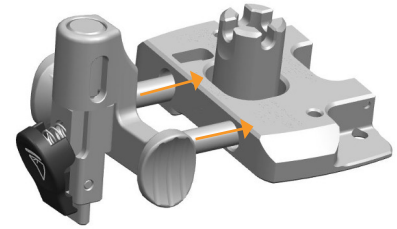

Figure 67
1. Insert the Fixed Valgus Bridge into the appropriate, handed JOURNEY Kinematic Alignment Valgus Guide (Figure 67).